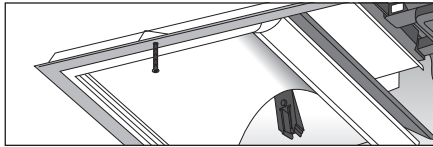
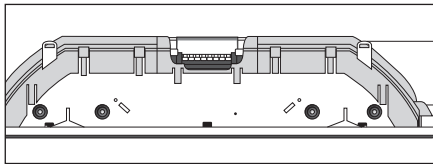

Fig. 17
Fig. 18
1. Clip transition to the body, ensuring that the ducting taped to the transition is not dislodged. Position the Tastic body into the aperture, so that the plastic end supports are resting on the plaster. As the Tastic is raised into ceiling, ensure electrical cables do not rest over Tastic. Place the four toggle bolts through the recesses cut into the plaster, (Fig. 17) and tighten the bolts. This will raise the Tastic body flush to the ceiling (Fig. 18).